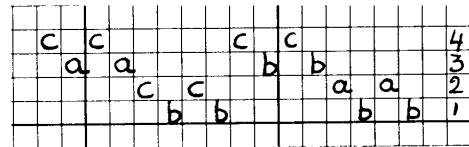

Fig. 3
1. When using three or more colors in the warp, for instance colors a, b and c, the design possibilities can be expanded by having the light/dark relationships of the colors vary with the blocks, e.g., substitute in block A: a for \circ , b for \blacksquare ; block B: c for \circ , b for \blacksquare ; block C: b for \circ , c for \blacksquare ; block D: a for \circ , c for \blacksquare . See Fig. 3, Plate 4.